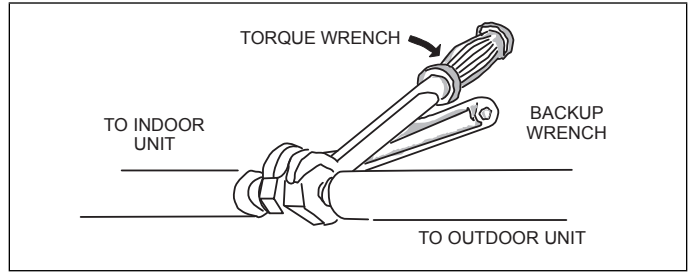

**Figure 35. Making Connections (Male to Female Connection)**
15. Align the threaded connections with the flared refrigerant lines. Tighten the flare nuts lightly at first to obtain a smooth match as illustrated in “Figure 35. Making Connections (Male to Female Connection)”.